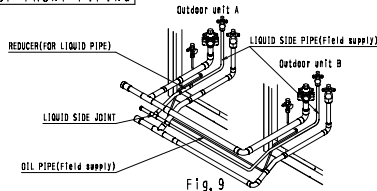

Fig. 9
-Connect LIQUID SIDE PIPES with LIQUID SIDE JOINT and OIL PIPE, (Refer to Fig. 9, 10)